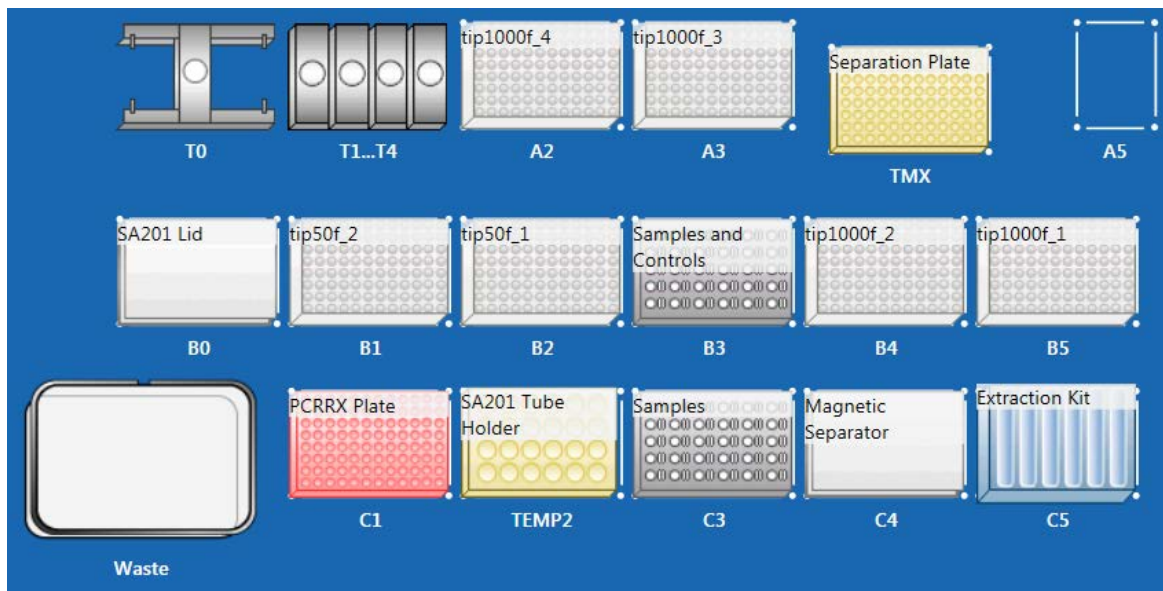

Figure 1. Layout of the *Sentosa*[®] SX101 platform for 96 tests
Figure 1 shows the positions of consumables / labware on the *Sentosa*[®] SX101 platform. Double line the *Sentosa*[®] SX Waste Bin with biohazard bags. Please refer to the layout as indicated by the *Sentosa*[®] SX101 instrument software or the appendix to load all items in the correct positions.
- 2.5. Place the correct *Sentosa*[®] SX Reservoirs and Modules into positions 1 to 7 of the *Sentosa*[®] SX Reservoir Rack 7 (refer to **Figure 1**, TEMP2) according to the table below.
- 2.10. Set the MicroAmp® Fast Optical 96-Well Reaction Plate with Barcode, 0.1 mL on the epMotion® Thermoblock for PCR 96 Wells Thermoblock PCR 96, and place the assembly on position C1 of the *Sentosa*® SX101 platform (refer to **Figure 1**).
- 2.11. Load the *Sentosa*® SX Non-Partition 1000 µL Filter Tips, *Sentosa*® SX Deepwell Plate 96/2000 µL, *Sentosa*® SX Non-Partition 50 µL Filter Tips and *Sentosa*® SX Magnetic Separator on the *Sentosa*® SX101 platform. Please refer to the layout as indicated by the *Sentosa*® SX101 instrument software (see **Figure 1**) or the appendix to load all items in the correct positions.
2.16. Load NC, PC and samples onto the Sentosa® SX Rack 0.5 + Adaptor / 1.5 / 2.0 mL (refer to Figure 1, B3 & C3) as illustrated below.
After scanning, place the reaction plate back onto the *Sentosa*[®] SX Thermoblock PCR 96 OC (refer to **Figure 1**, Location: C1). The reaction plate should be oriented with the barcode label facing towards the user.